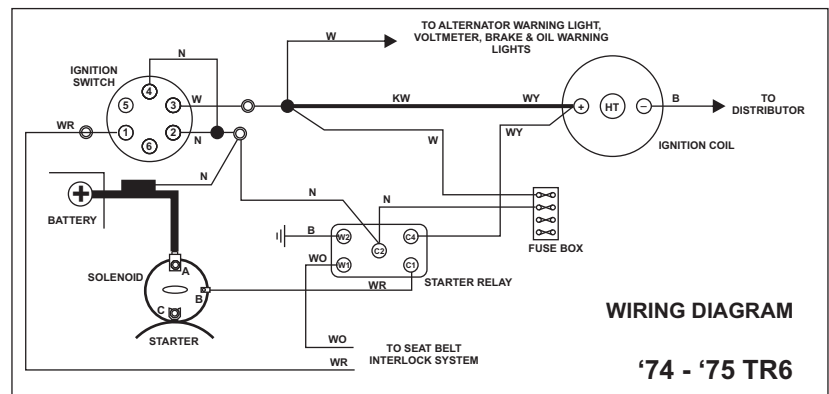

FIGURE 1
With a non-ballast coil, power is applied to the coil directly from the ignition switch, via a white wire. Power to the ballast coil comes from the ignition switch to the ballast resistor, and then to the coil. When the starter is operating, power from the battery is routed directly to the coil through the contacts of the starter relay ('74 - '75 models) or through an extra contact on the starter solenoid ('73 and '76 models), as shown in **figures 1 through 6** below. This shorts out the resistor wire by placing 12 volts on both ends of the wire. With the same voltage on both ends, no current flows, so no heat is generated. The current flow is shunted around the resistor wire. This bypassing of the resistor wire places the full 12 volts on the coil.
**Figure 1** below illustrates the circuit configuration for '74 - '75 models
Step 2) power to the ignition coil (via the ballast resistor) comes from the ignition switch on a white wire. See **figure 1**, page 85, and **figure 4**, page 84, for details. The white wire from the ignition switch also feeds the voltmeter, the alternator, brake and oil warning lights, and the “green” fuse. The green fuse feeds the WS wipers, WS washer, turn signals, heater fan, brake and back-up lights, and the gauges. If *ANY* of these items work, there is power on the white wire from the ignition switch- go to step 2. If *NONE* of these items work, the ignition switch is faulty, there is a break in the white wire from the switch, or there is a break in the brown wire to the switch. Refer to chapter 23, Power Distribution, and repair as needed.